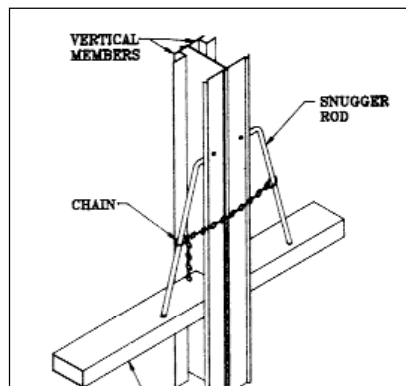

FIGURE 13
Slip the larger link on the end of the chain over the snugger rod, and insert snugger rod into the 17/32" hole in the horizontal door member. Secure opposite end of snugger rod to vertical member using (1) 1/4" fastener and nut. **See figure 13.**
To latch the two doors together, merely hook the "S" hook onto the snugger rod as shown. The more the door rattles, the tighter the latch becomes. After making certain the "S" hook is in the proper link (latched chain should be about 6" from top of horizontal member), close the "S" hook slightly so it will not become detached from chain. **See figure 13.**